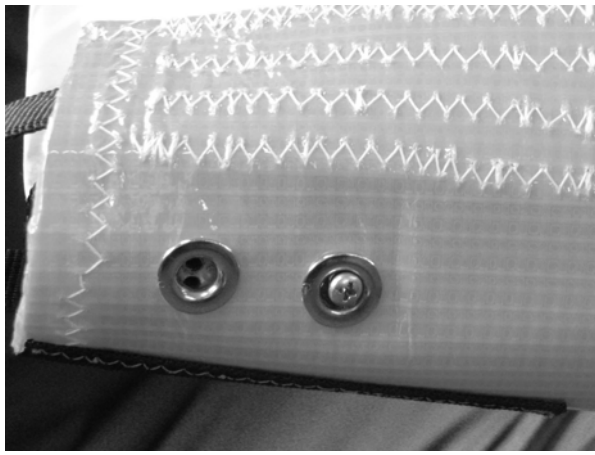

Fig. 6
2.1.8. Fix the sail with the self-tapping screw. Make sure you put the screw in the same marked hole it has been removed from (Fig. 6).